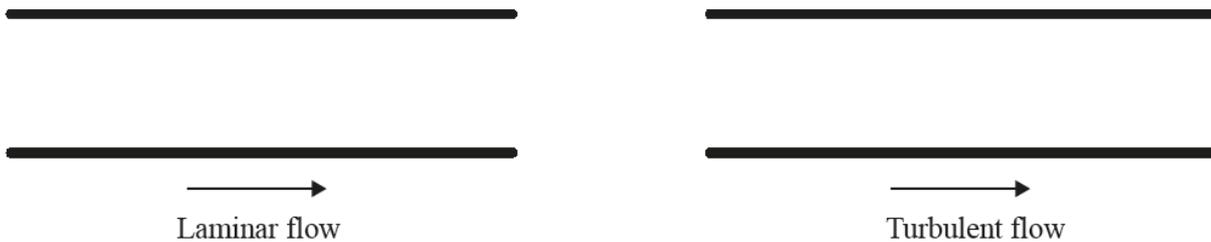

Fig. 6
- (b) Fig. 6 shows the cross section of two pipes.
Sketch diagrams on Fig. 6 to show laminar and turbulent flow through the pipes.